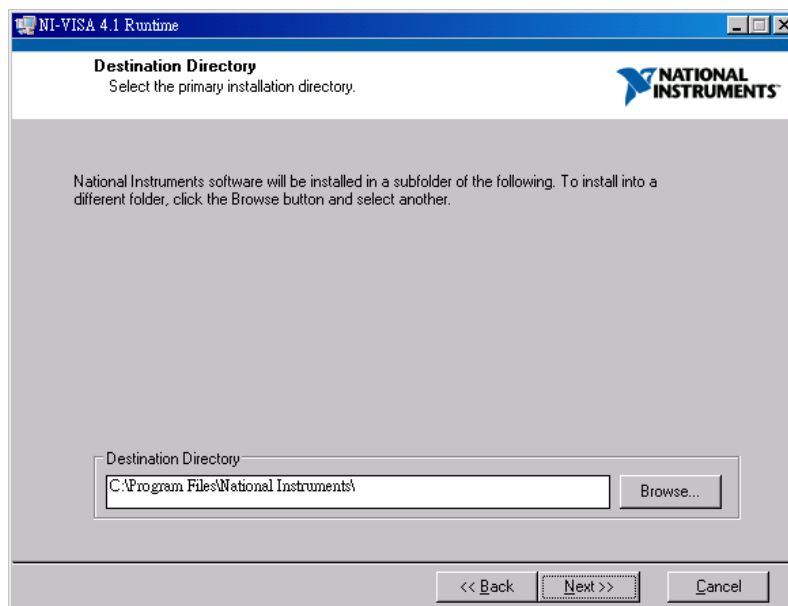

Figure 2-7 Setting Destination Directory for Installation
2. It is suggested to end the other running applications first, and then click **Next >>** to start the installation. It will enter into the next installation procedure and ask the user for installation path as Figure 2-7 shows.